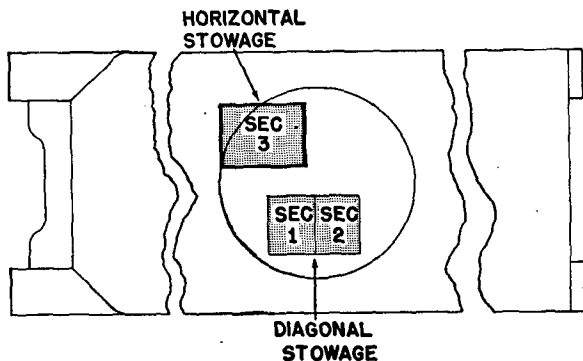

Figure 5. 76-mm ammunition stowage.
b. 76-mm gun. Ammunition is withdrawn from the holders in an order which assumes the stowage space to be divided into three sections (see fig. 5). These are the front half of the diagonal racks left of the power tunnel; the rear half of the same group of racks; and the horizontal racks right of the power tunnel, behind the bow gunner. Sections are emptied in the order in which numbered; but in each section the handiest rounds are used last to provide for possible emergency. Sections 1 and 2 are emptied in turn from the ends toward the middle and section 3